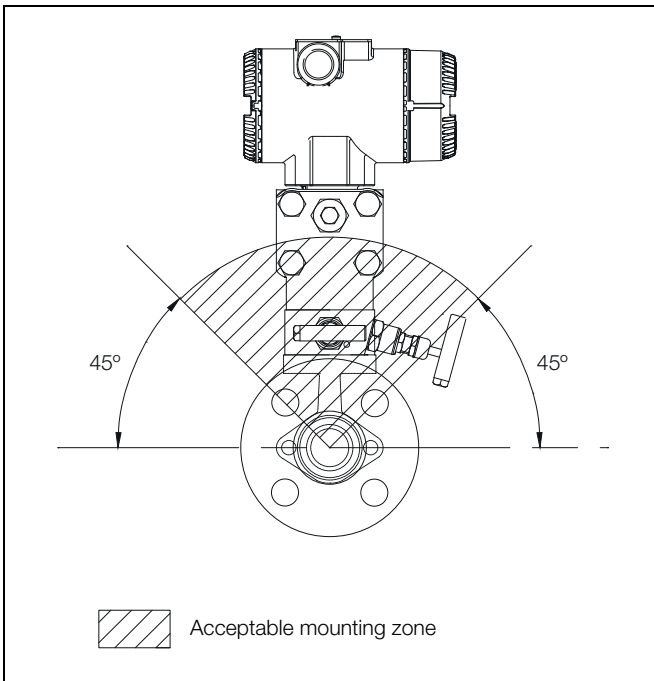

Fig. 2.3 Horizontal Pipe Mounting – Gas Applications
To ensure that condensate drains back into the pipe, mount the meter **above** the pipe, at least 45 degrees above the horizontal – see Fig. 2.3.
- for horizontal pipe mounting – gas, refer to Fig. 2.3.